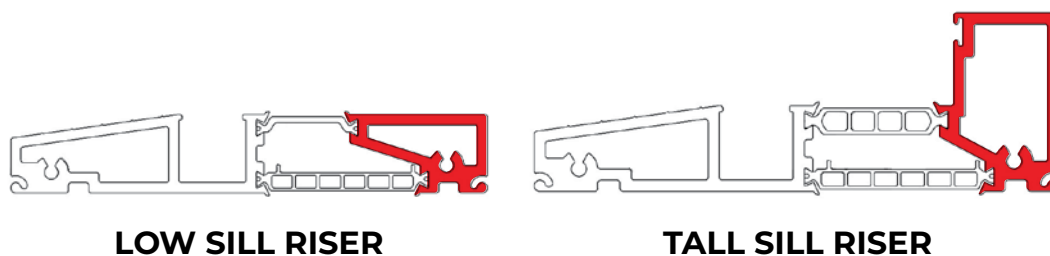

FIG 23
- Multi-slide sills come in a variety of riser heights and should be noted as to the one specified for your application. **[FIG 23]**